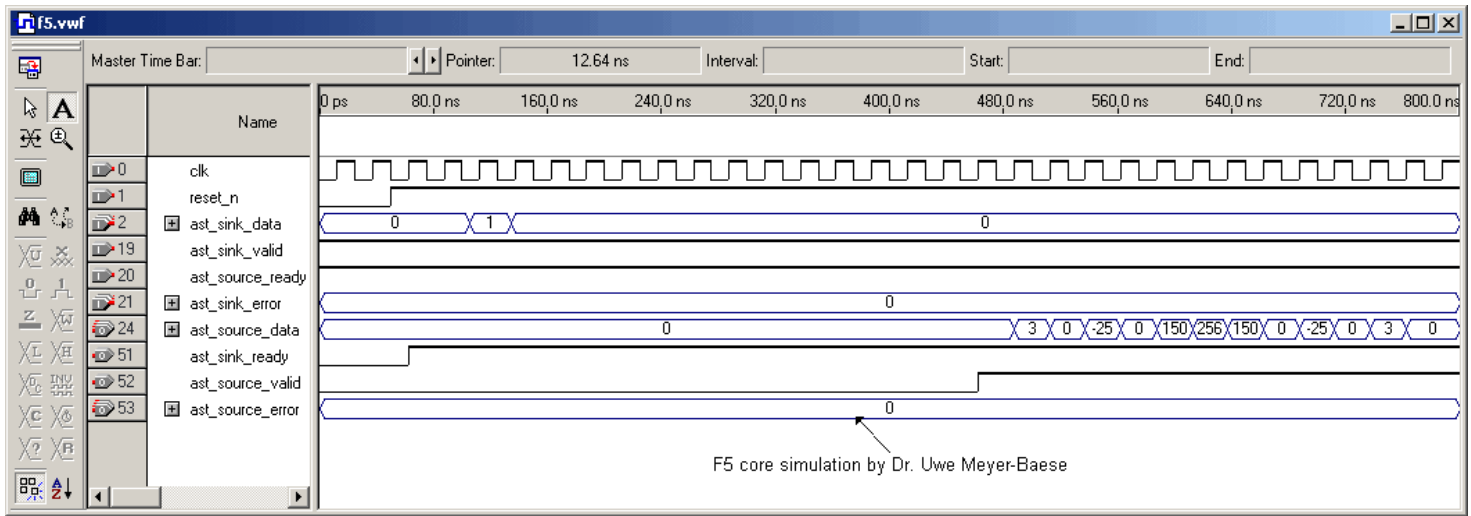
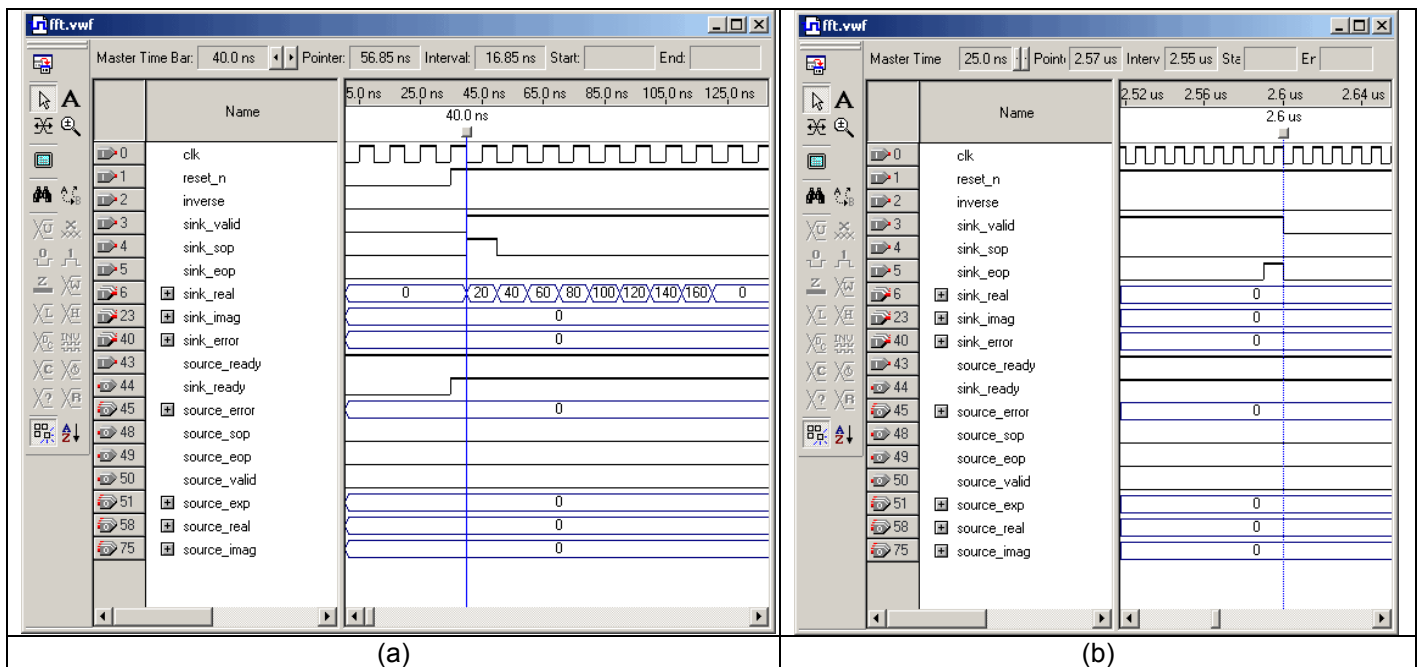

Figure 2: f5.vhd PDA core simulation.
Figure 3: FFT input data specification (a) Start Of (data) Package (b) End Of (data) Package.
3. Perform a Functional Simulation of the design `f5.vhd` with the impulse response and try to match with the `f5` simulation shown in Figure 2. The following **input** port needs to be specified: `clk`, `reset_n`, `ast_sink_data`, `ast_sink_valid`, `ast_source_ready`, `ast_sink_error`. Remember that `reset_n` is active low and “sink” are input signals and “source” are output signals! All filter coefficients should be seen in the output signal `ast_source_data`. Add your e-signature and print this simulation in landscape format.
- Perform a **Functional Simulation** of the design `fft.vhd` with the testbench data from the prelab, i.e., `x=20:20:160` as in Figure 3. The following **input** ports need to be specified: `clk`, `reset_n`, `inverse`, `sink_valid`, `sink_sop`, `sink_eop`, `sink_real`, `sink_imag`, `sink_error`, `source_ready`. Remember that `reset_n` is active low and `sink_sop` is needed to be high one clock cycle when the sequence starts and `sink_eop` is high one clock cycle when the sequence ends. Make sure the input sequence is exact 256 cycles long. Use a `clock = 10ns` for easy counting clock cycles. The output data start at $5.3 \mu\text{s}$ and the end is at $7.8 \mu\text{s}$.
- Complete this report, print the Quartus simulations for f5 (see Fig. 2) and 4 simulations for the length-256 FFTs (see Fig. 3 and 4) including e-signature. (7 points).